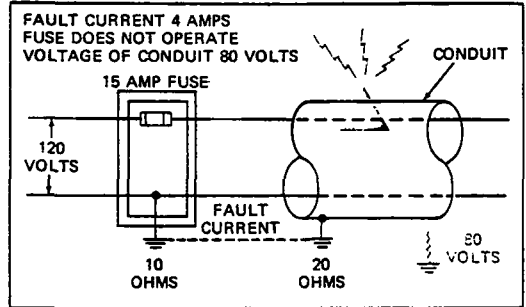

Fig. 7-5. Circuit and conduit grounded separately.
7.26 Even if the conduit and the circuit are separately grounded, as in Fig. 7-5, there is still a risk of shock when a fault occurs. Under the conditions given in the illustration, 4 amperes of fault current flow from the conduit to ground, through the earth to circuit ground and back to the unfused conductor. The 4 amperes of current are not enough to blow the fuse, but more than enough to cause injury or death. In addition, there is an 80-volt potential between the conduit and ground.